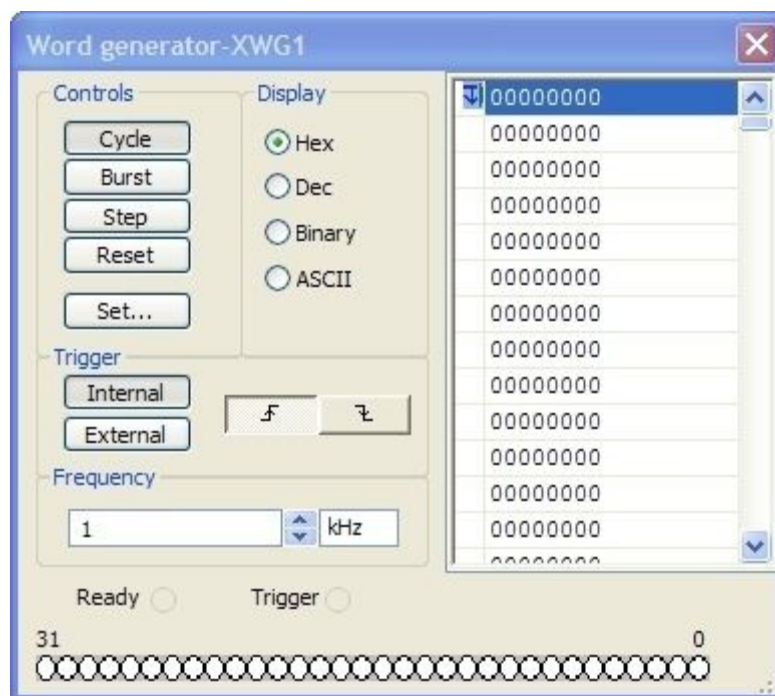

Figure 12. Word generator control pop-up window (MS13, not MS11 or MS12).
- 6) To configure the Word Generator source, double-click its symbol to access its parameters in a control window. The control window is shown in Figure 12. This tool is used to create specific test vectors for digital circuits. The test vectors can be complex or they can be a simple counting or shifting sequence of 1's and 0's. The panel on the right of the window